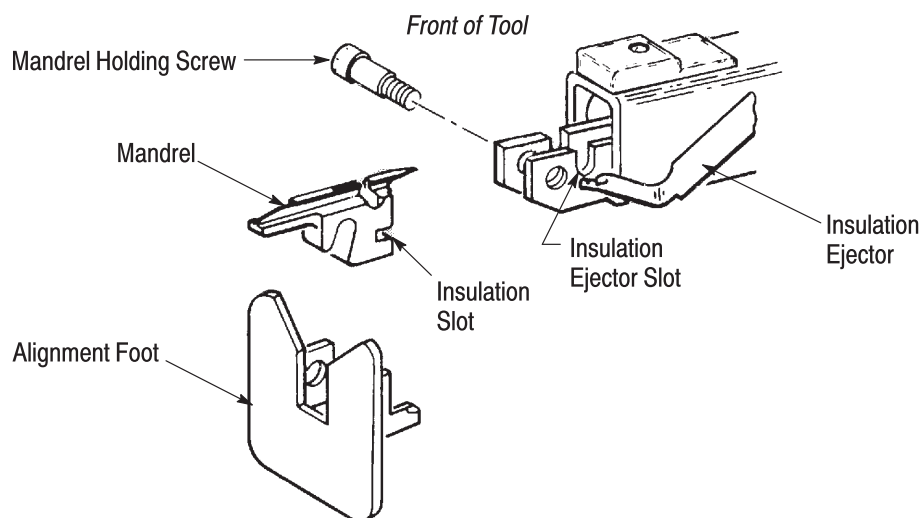

Figure 4
3.2. Mandrel Installation (See Figure 4)